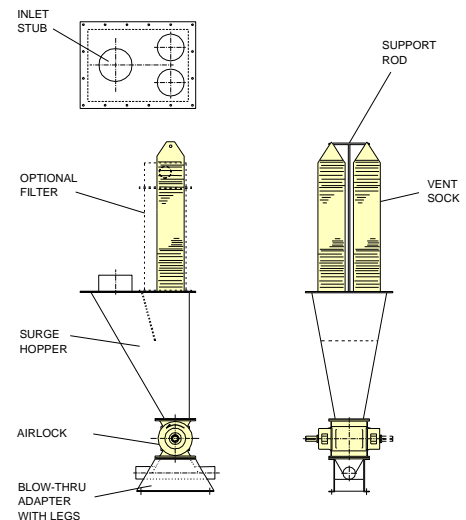
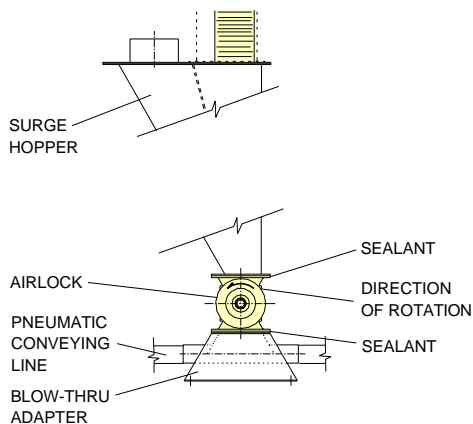

Figure 4-9 Blow-thru Adapter and Surge Hopper
Figure 4-10 Installation of the Blow-thru Adapter and Surge Hopper
To install the blow-thru adapter and surge hopper refer to Figure 4-9 and Figure 4-10.
4. Apply silicone sealant to the inlet flange of the airlock. Orient the surge hopper with the inlet stub on the same side as the rotation of the airlock, as shown in Figure 4-10 and 4-11. Bolt the inlet flange of the airlock to the outlet flange of the surge hopper.